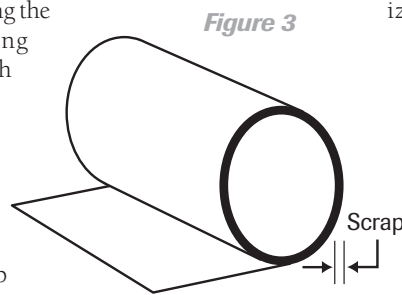

Figure 3
- **Web Savings.** A customer that uses flying splice equipment understands the value of minimizing material left on a core after splice-over. A process control upgrade to implement auto splice as a function of diameter can minimize the wasted web drastically (see **Figure 3**).